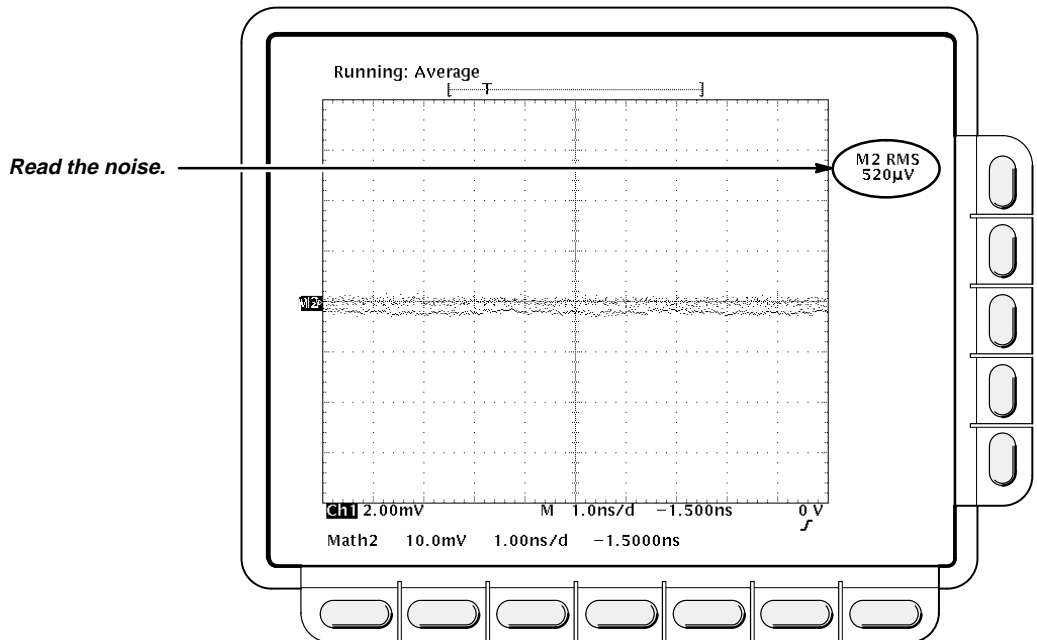

Figure 1-23: Measurement of Random Noise Accuracy
- If your oscilloscope has delay lines (standard instrument), CHECK that the **M2 RMS** readout on screen is ≤ 1.2 mV. If your oscilloscope does not have delay lines (Option 1D), CHECK that the **M2 RMS** readout on screen is ≤ 600 μ V. See Figure 1-23